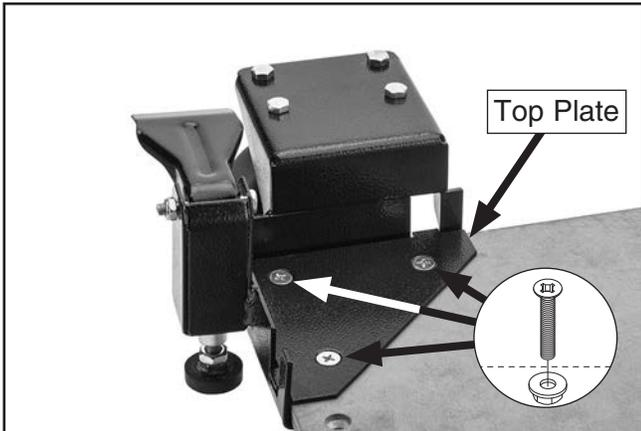

Figure 7. Corner bracket and top plate installed.
- Slide top plate tabs into left front corner bracket (see **Figure 7**). Attach bracket and top plate to base plate with (3) M8-1.25 flat head screws and (3) M8-1.25 flange nuts.